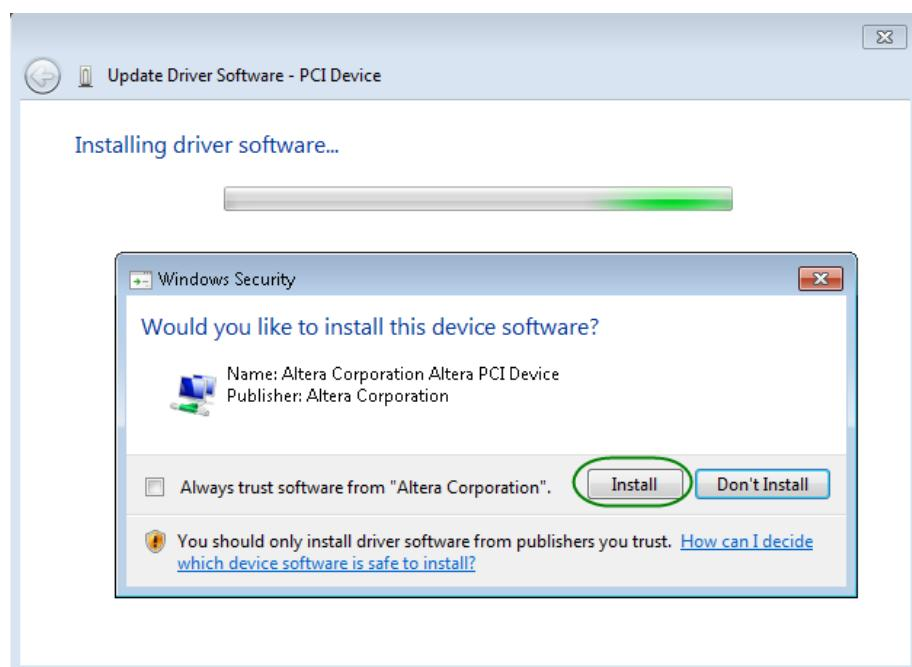

Figure 7-6 Click Install in the dialog of Windows Security
8. When the **Windows Security** dialog appears, as shown Figure 7-6, click the **Install** button.